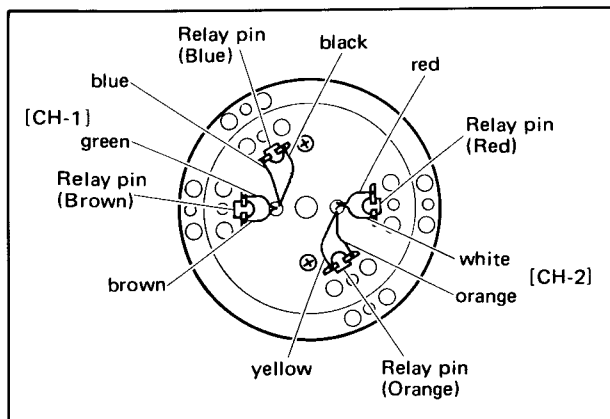

Fig. 4-12 Upper drum top view
6. Reassemble by reversing the above steps. Observe the correct positions when resoldering the wires as shown in Fig. 4-12. Avoid overheating the wires when resoldering. Observe that the brush assembly contacts the central portion of the commutator.